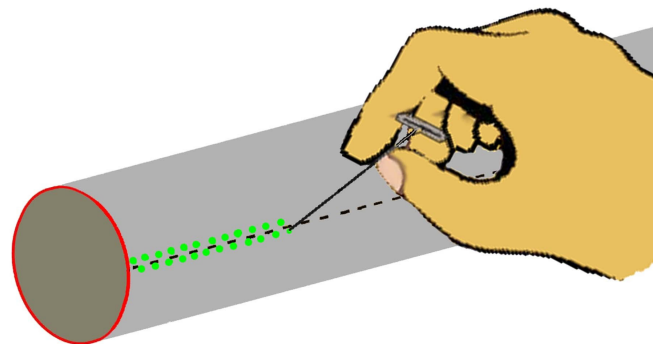

Figure 5
- **Step 18** These fins have a large surface area, and need a reinforced joint to the body tube. Using a straight pin, or a modeler's "T" pin, punch a series of holes along all six fin alignment lines, about 3/16" apart and in a zig zag pattern crossing the alignment lines. Study Fig. 5 above.